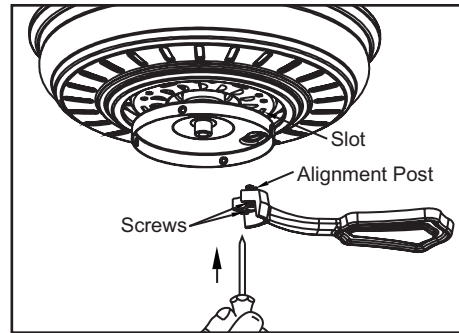

Figure 14
1. Fasten the blade bracket to the motor by inserting the alignment post into the slot on the bottom of the motor and tightening the blade bracket screws. The blade bracket screws are pre-installed into the blade bracket (Figure 14).